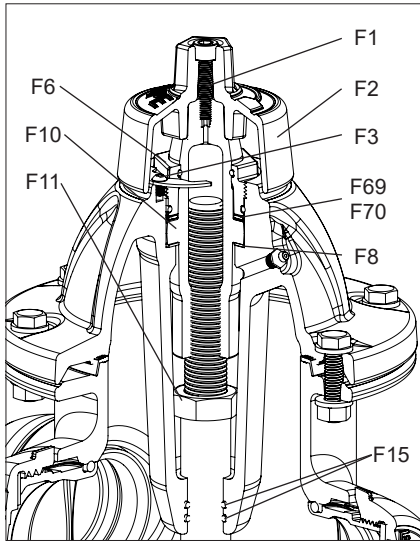

Fig. 7A
1. Remove the Weathershield Bolt (F1) with a 5/16", (8mm) hexagon key. Lift off the Weathershield (F2). (See Fig. 7A)
3. Using the AVK operating wrench, or a large adjustable wrench, unscrew the Thrust Nut (F6) counterclockwise. (See Fig. 7A & 7B)
6. Place one Anti Friction Washer (F8), on the top and bottom of the Operating Nut (F10) thrust collar. (See Fig. 7A)
11. Place one Anti Friction Washer (F8), on the bottom of the Operating Nut (F10) thrust collar, and the Thrust Bearing and Races (F69, F70) on the top of the Operating Nut (F10) thrust collar. (See Fig. 7A)